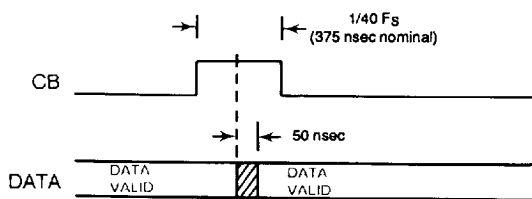

FIGURE 14. CONVERTER BUSY TIMING
The Converter Busy (CB) signal indicates that the tracking converter output angle is changing 1 LSB. As shown in FIGURE 14, output data is valid 150 ns maximum after the middle of the CB pulse. CB pulse width is $1/40 F_s$, which is nominally 375 ns.